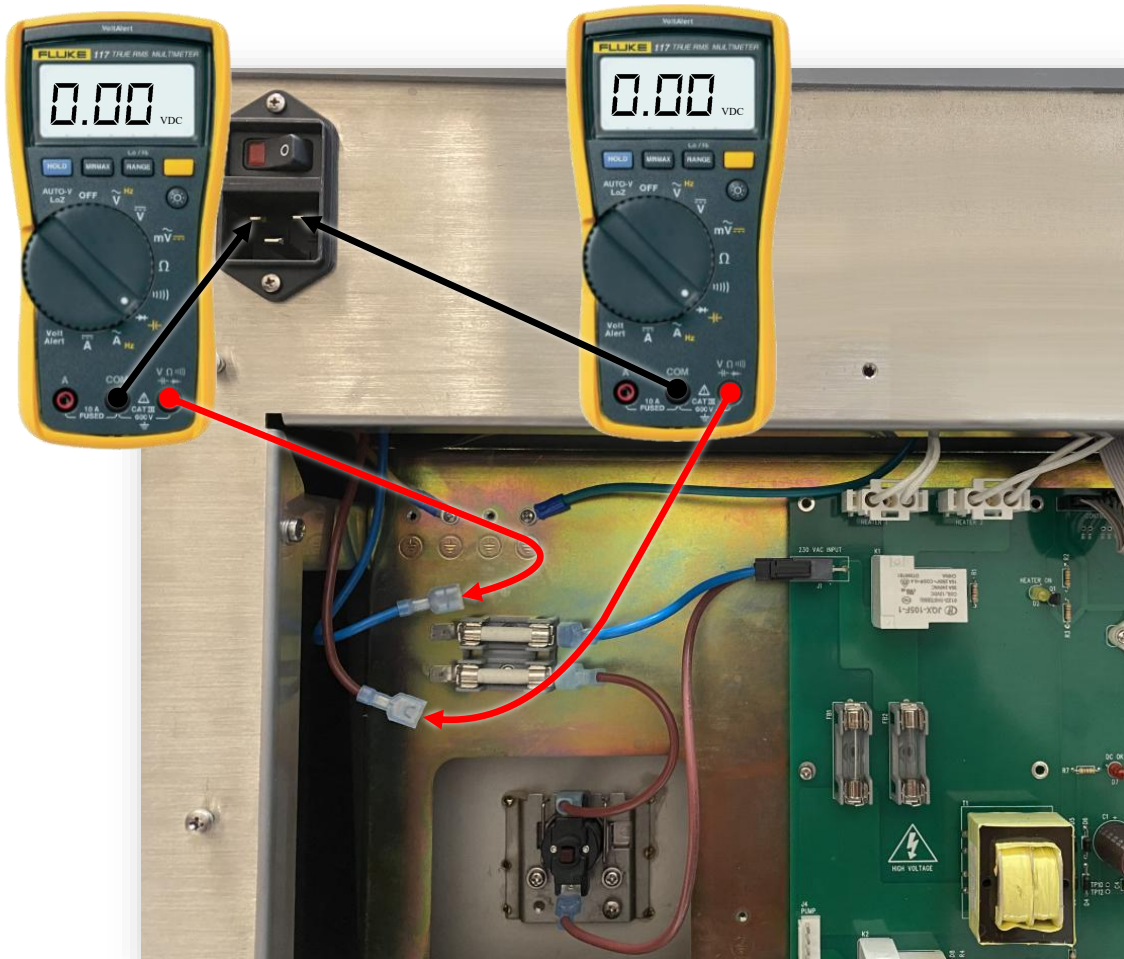

Figure 51 – PEM Continuity Test
- c. Disconnect the blue and brown wiring from the fuse blocks (See Figure 51). Ensure that the positions of each wire terminal is noted. Swapping the position of these wires can destroy the PCB.